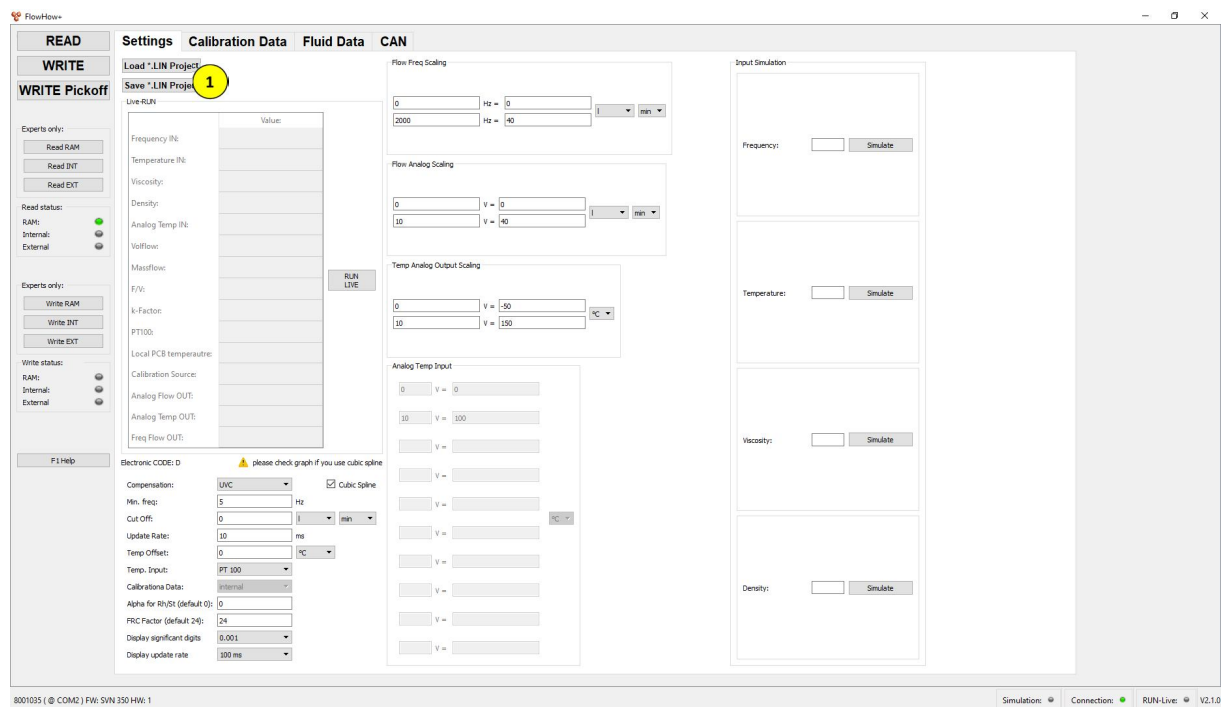

Fig. 19 Save \*.LIN Project
Press "Save \*.LIN Project" in the "Settings" **tab (1)** and save it as a file. [Fig. 19]